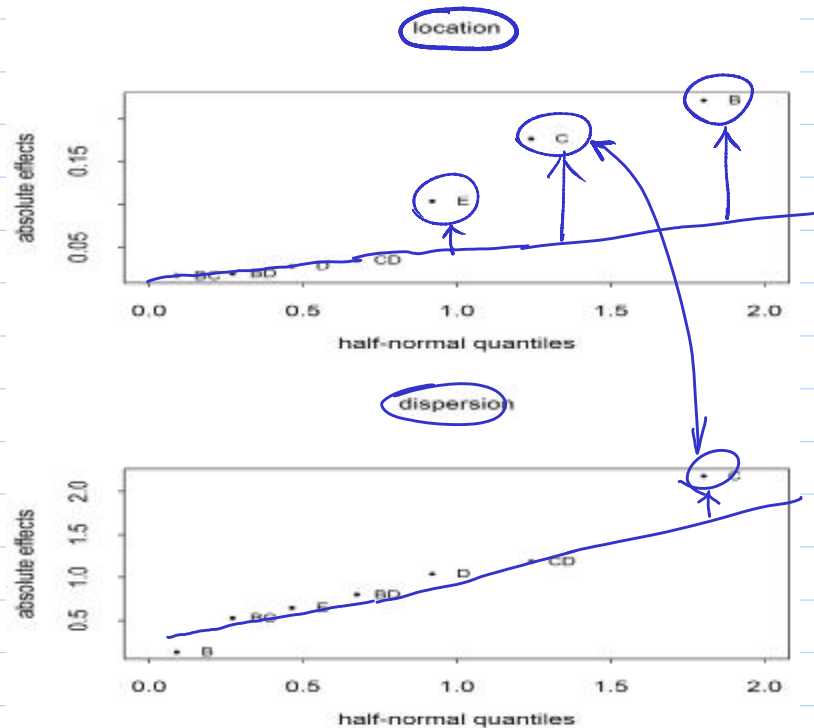

Figure 3: Half-Normal Plots of Location and Dispersion Effects, Leaf Spring Experiment
- Based on the half-normal plots in Figure 3, B , C and E are significant for location, C is significant for dispersion: